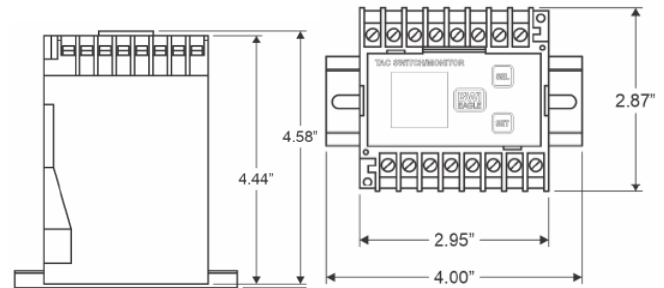

FIGURE 4 .1: 37543 Smart Monitor dimensions.
1. Mount the Smart Monitor inside an existing control panel or other suitable protective enclosure. See Figure 4 .1 for Smart Monitor mounting dimensions.
4. Figure 4 .3 shows a sample wiring diagram of how the Smart Monitor can be wired into your system. If you are familiar with PPI's older Smart Monitor, see Figure 4 .4 comparing the wiring diagrams.